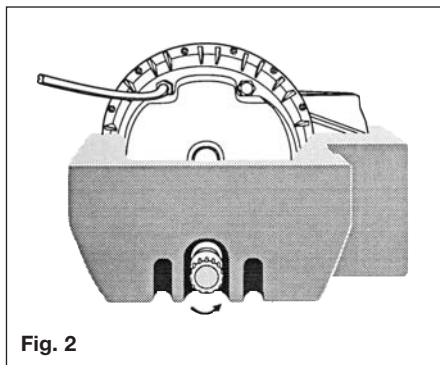

Fig. 2
2. Open the drain valve on the heater by rotating the red knob by two clicks in an anti-clockwise direction (Fig.2)